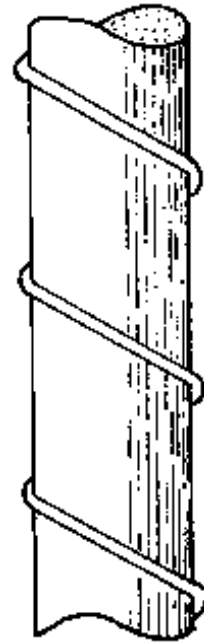
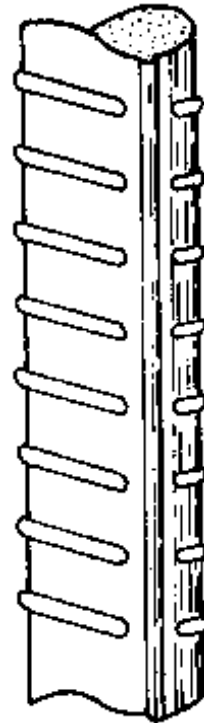

Fig. 2
Fig. 3
- RIBBED BARS: The round bars with a ribbed surface are called ribbed bars and are available in diameters ranging from 6 mm to 40 mm, if the bar is cross-ribbed (Fig. 2, next page). For obliquely ribbed bars, the diameters range from 6 mm to 28 mm (Fig. 3, next page). This last type of reinforcement is also called "tensor bar" and it is the strongest reinforcement steel available.